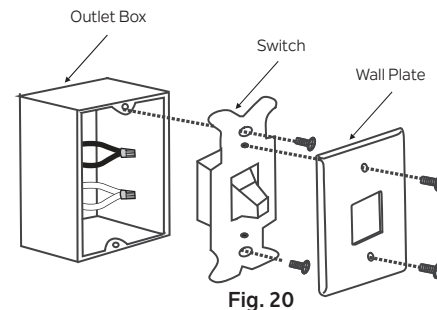

Fig. 20
Step 1. Remove the existing wall plate and the old switch from the wall outlet box. (Fig. 20)
Step 2. Connect the BLACK leads (hot) together with a wire connector (not supplied) and push the connected leads back inside the wall outlet box. (Fig. 20)
Step 3. Connect the WHITE leads (neutral) together with a wire connector (not supplied) and push the connected leads back inside the wall outlet box. (Fig. 20)